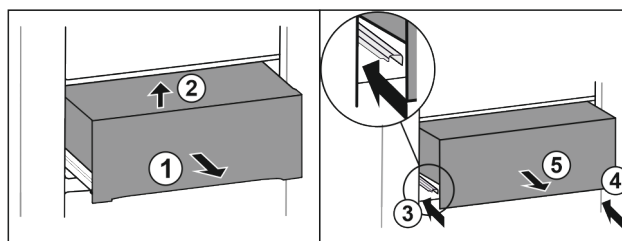

Fig. 28*
- Pull out the drawer half-way Fig. 28 (1).*
- Lift at the front Fig. 28 (2).*
- Insert left rail Fig. 28 (3).*
- Insert right rail Fig. 28 (4).*
- Take out the drawer to the front Fig. 28 (5).*